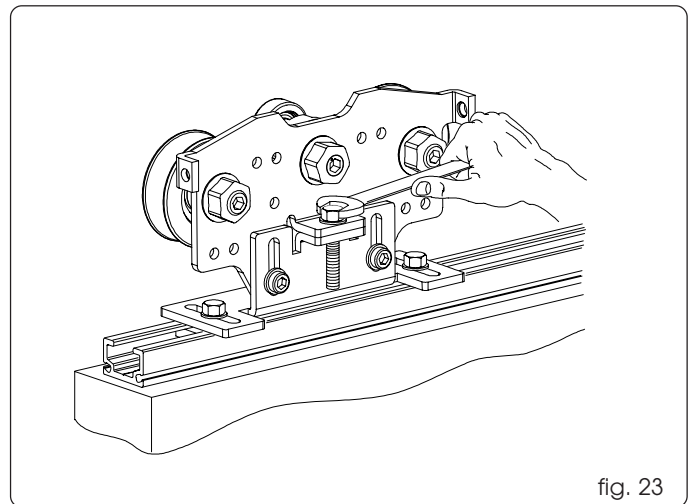

fig. 23
- Turn the screw (fig. 23) clockwise to raise the leaves or anti-clockwise to lower them.